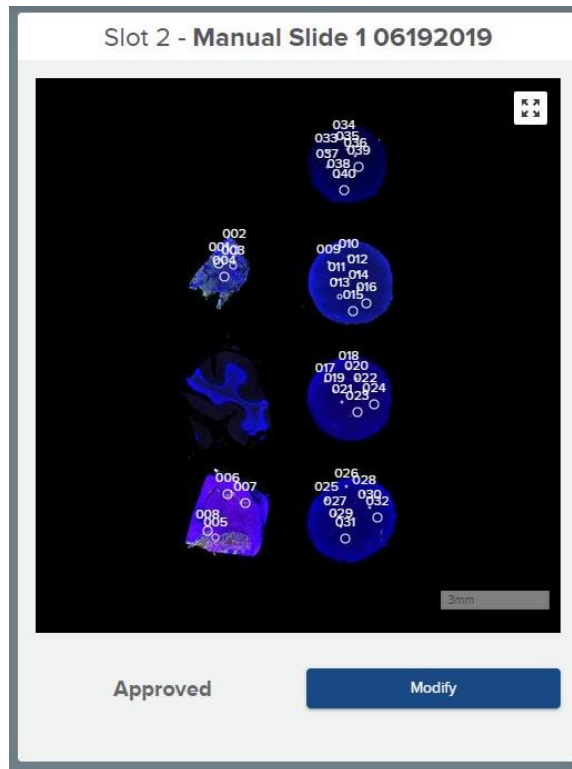

Figure 45: Scan status messages and buttons
3. Repeat the steps **Select ROIs** and **Segment ROIs (optional)** for each slide. Use the **Edit ROIs** button to open the Scan Workspace for each scan image. Once ROIs have been saved and approved on a scan image, the button below it will change to **Modify** (see Figure 45). ROIs can be modified up until collection on the slide has begun.